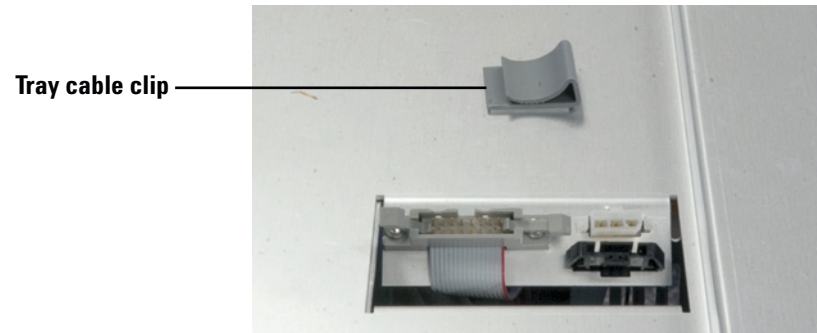

Figure 13 Tray cable clip
- 7 Slide the cables out of the tray cable clip (Figure 13).